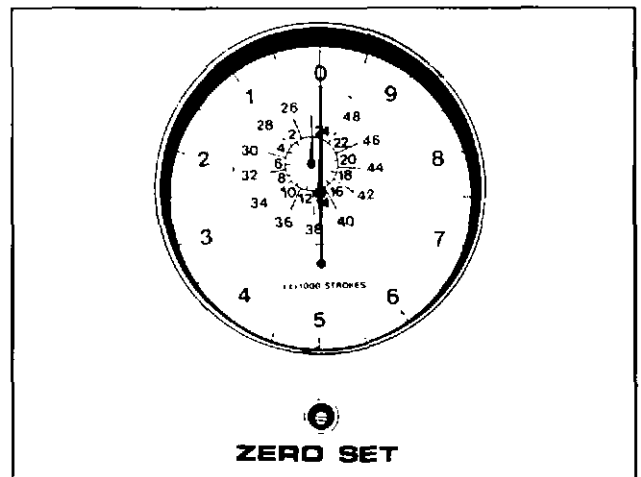

Fig. 2-54. Zero the dial indicator gauge
3. When the readings stabilize, stop the main drive by raising the handle lever. After the motor has stopped, press the metering button. Then set the dial indicator to zero with the adjusting screw. Fig. 2-54.